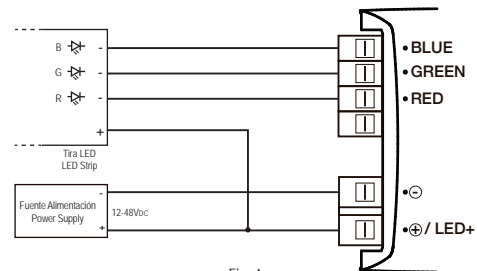

Fig. 4
- Fig. 4: Control of 1 RGB LED Strip.
- Fig. 4: Control de 1 Tira LED RGB.